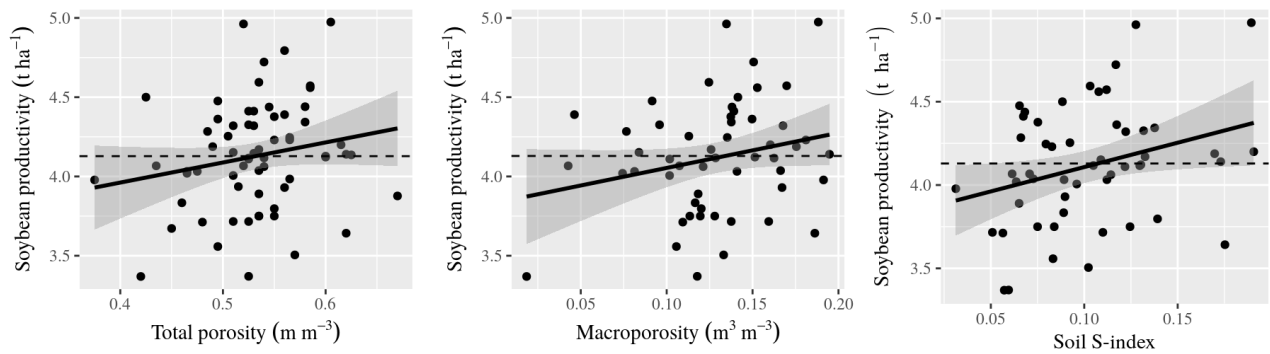

Fig. 4
12 **Fig. 4** (a, b, c) Relationship of the total porosity (TP), macroporosity and soil index-S with the soybean yield. The